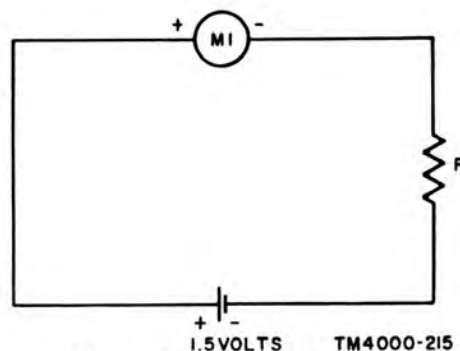
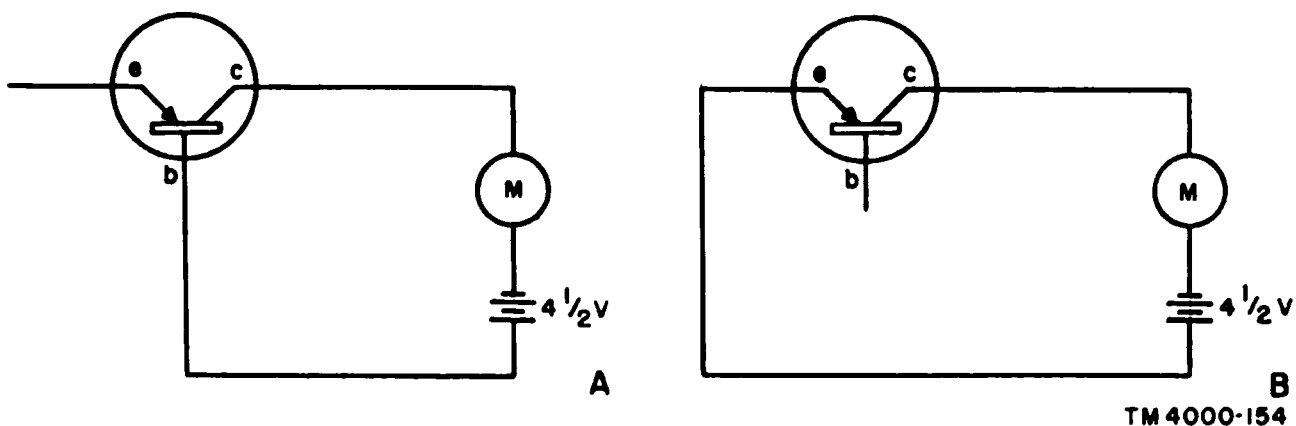
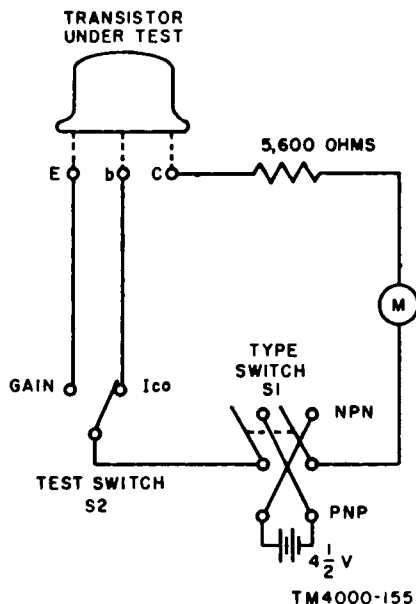

Figure 111. Meter test setup.
Figure 118. Testing transistor characteristics.
Figure 119. Field test circuit.
f. Indicating Meters. The indicating meters used in radiac sets are usually microammeters with 20 to 50 microampere (μa) full-scale deflection. Because of the low permissible current, the continuity of these meters cannot be tested with an ohmmeter; the meter movement would be burned out. Refer to the circuit shown in figure 111. Find the value of resistor R by dividing 1.5 volts by $\frac{1}{2}$ the full-scale deflection current of the meter to be tested. For example, for a 20- μa meter the value of $R = 1.5/10 \times 10^{-6} = 1.5 \times 10^5$ or 150,000 ohms. For a 50- μa meter the value of R should be 60,000 ohms. When used in such a circuit, a good meter will
- (1) To obtain an indication of the I_{co} of a PNP transistor, connect the meter and battery to the collector-base circuit with the emitter circuit open (A, fig. 118). The meter will indicate the I_{co} which should be as stated in b(2) below.
- (2) To obtain an indication of the current gain of a PNP transistor, connect the battery and meter to the emitter-collector circuit with the base circuit open (B, fig. 118). The meter should indicate a current from 20 to 40 times greater than I_{co} obtained in (1) above.
- (3) To obtain these readings for NPN transistors, reconnect the battery so as to reverse its polarity in the circuit.
b. If parts listed below are available or obtainable, the circuit shown in figure 111 can be used to perform both tests outlined in a above plus the test used to determine the type of transistor outlined in paragraph 321a(3). After constructing the tester, label the switches and switch positions as shown in figure 119.
- (1) Set the meter to the 2.5 ma current scale. Set test switch, S2, to the I_{co} position and insert the transistor into the socket (or connect the transistor leads to the proper terminals as shown in (fig. 119)).
- (2) Set type switch, S1, to the position (NPN or PNP) that correspond to the type of transistor under test and note the reading on the meter. If the meter reading is above .250 ma (except for power transistors), the transistor is considered defective. If the meter indicates a current of less than .250 ma, set the meter to the 250 microampere current scale and note the